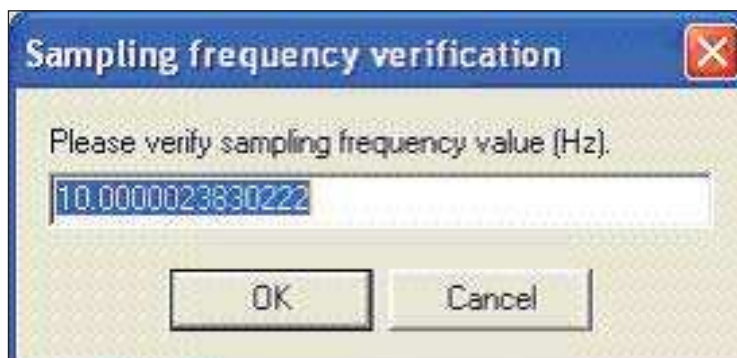

Figure 3: The Sampling frequency verification window displays an estimated value for the sampling frequency.
- Click on the "Create" button, and EdiRe will open the "Sampling frequency verification" window with the estimated sampling frequency filled in for the raw time series file you have selected from the "EdiRe Raw Data File Interpreter" window (see Figure 3).